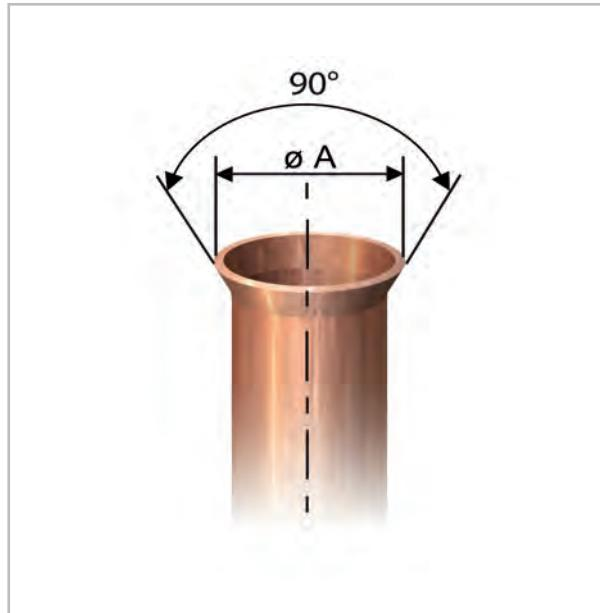

Fig. 20: Correct flange shape
9. Verify that the shape of the flange is correct (Fig. 20).